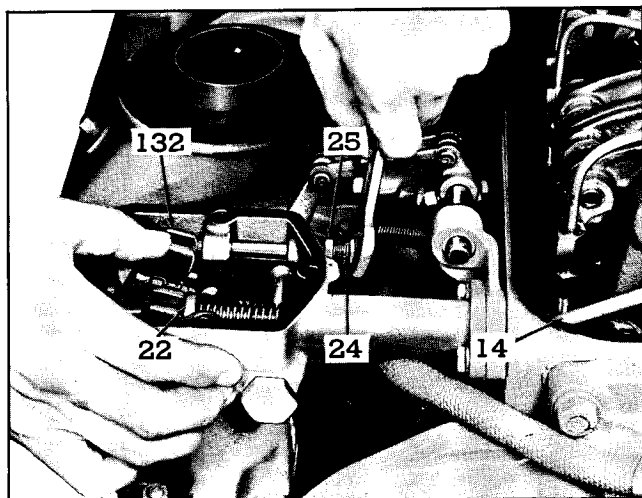

Fig. 3 - Adjust Load Limit
- Place fuel rod (14) and terminal lever (132) in the FULL FUEL position as shown in Fig. 3.
- Loosen lock nut (25). Turn adjusting screw (24) until a .020" space exists between the fuel rod collar (22) and the terminal lever (132). Hold screw and tighten lock nut.